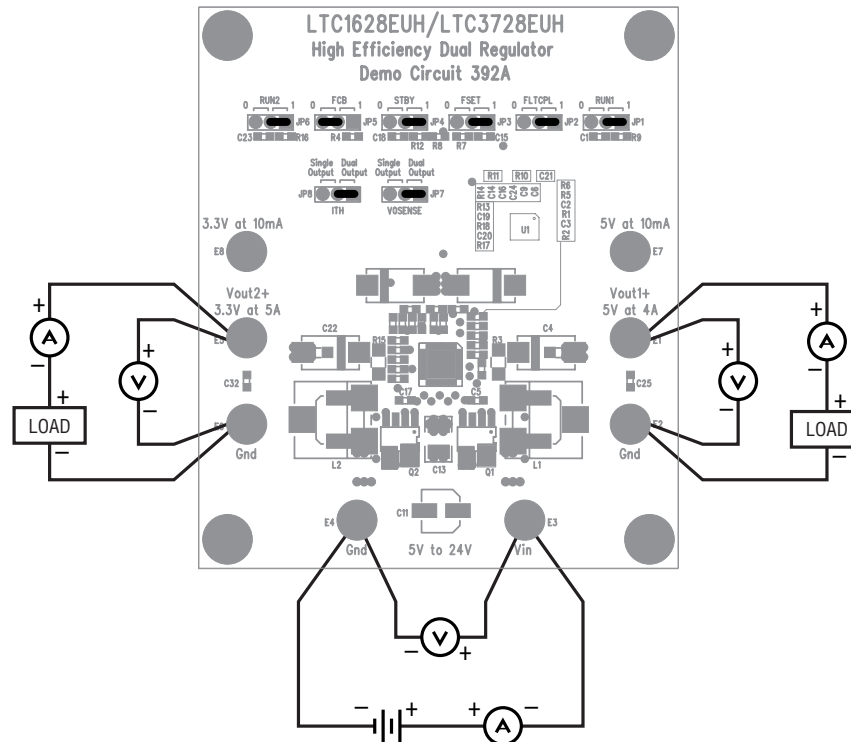

Figure 1. Proper Measurement Equipment Setup
Demonstration circuit 392 is easy to set up to evaluate the performance of the LTC1628 or LTC3728. Refer to Figure 1 for proper measurement equipment setup and follow the procedure below:
1. With the power off, place the jumpers as shown in Figure 1.